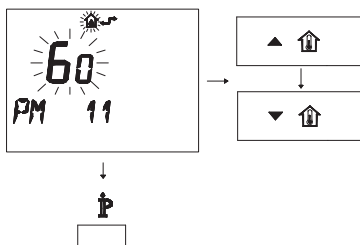

Fig. 7.31
- To modify the programmed SET, act on buttons **▲** and **⏏** or **▼** and **⏏** and wait for the programmed number to flash (Fig. 7.31). Each step increased or decreased corresponds to 1 second.